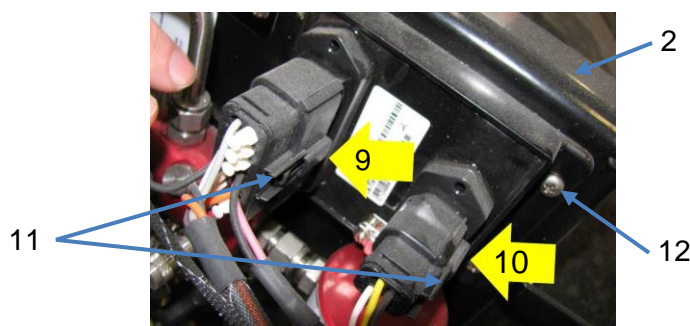

Figure 5.
5. Remove wire harness connectors (9 & 10) from ECU by pressing locking tab (11) on the side of each connector housing while pulling connector downward. Figure 5
6. Using a long (~12-in.) Philips screwdriver and a 10mm wrench, remove ECU fasteners (12) securing ECU (2) to the FMM. *Figure 5*
7. Gently remove ECU (2) taking care not to damage connector contacts. *Figure 5*